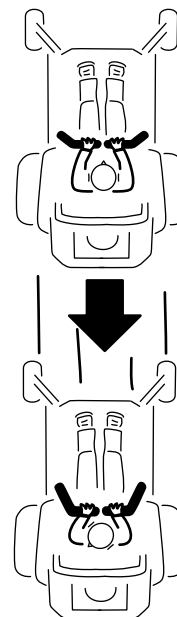

Figure 24
2. To go backward, slowly pull the motion-control levers rearward (Figure 24).